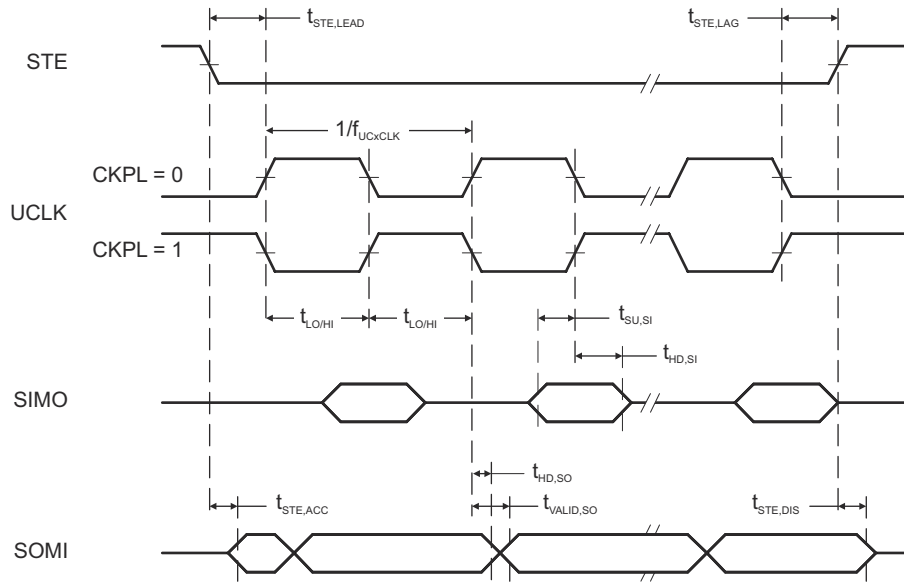
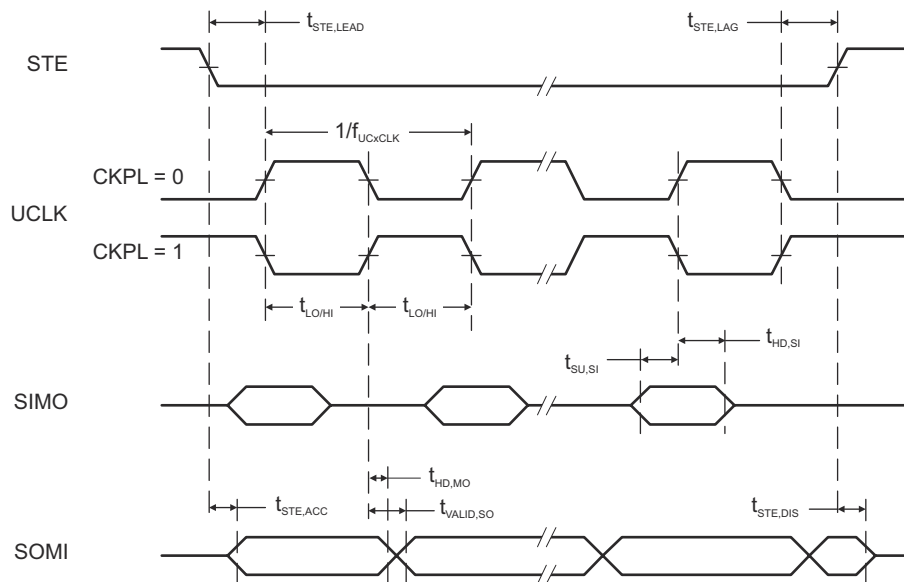

图 8-15. SPI Slave Mode, CKPH = 0
图 8-16. SPI Slave Mode, CKPH = 1
(see 图 8-15 and 图 8-16)
- (2) Specifies the time to drive the next valid data to the SOMI output after the output changing UCLK clock edge. See the timing diagrams in 图 8-15 and 图 8-16.
- (3) Specifies how long data on the SOMI output is valid after the output changing UCLK clock edge. See the timing diagrams in 图 8-15 and 图 8-16.